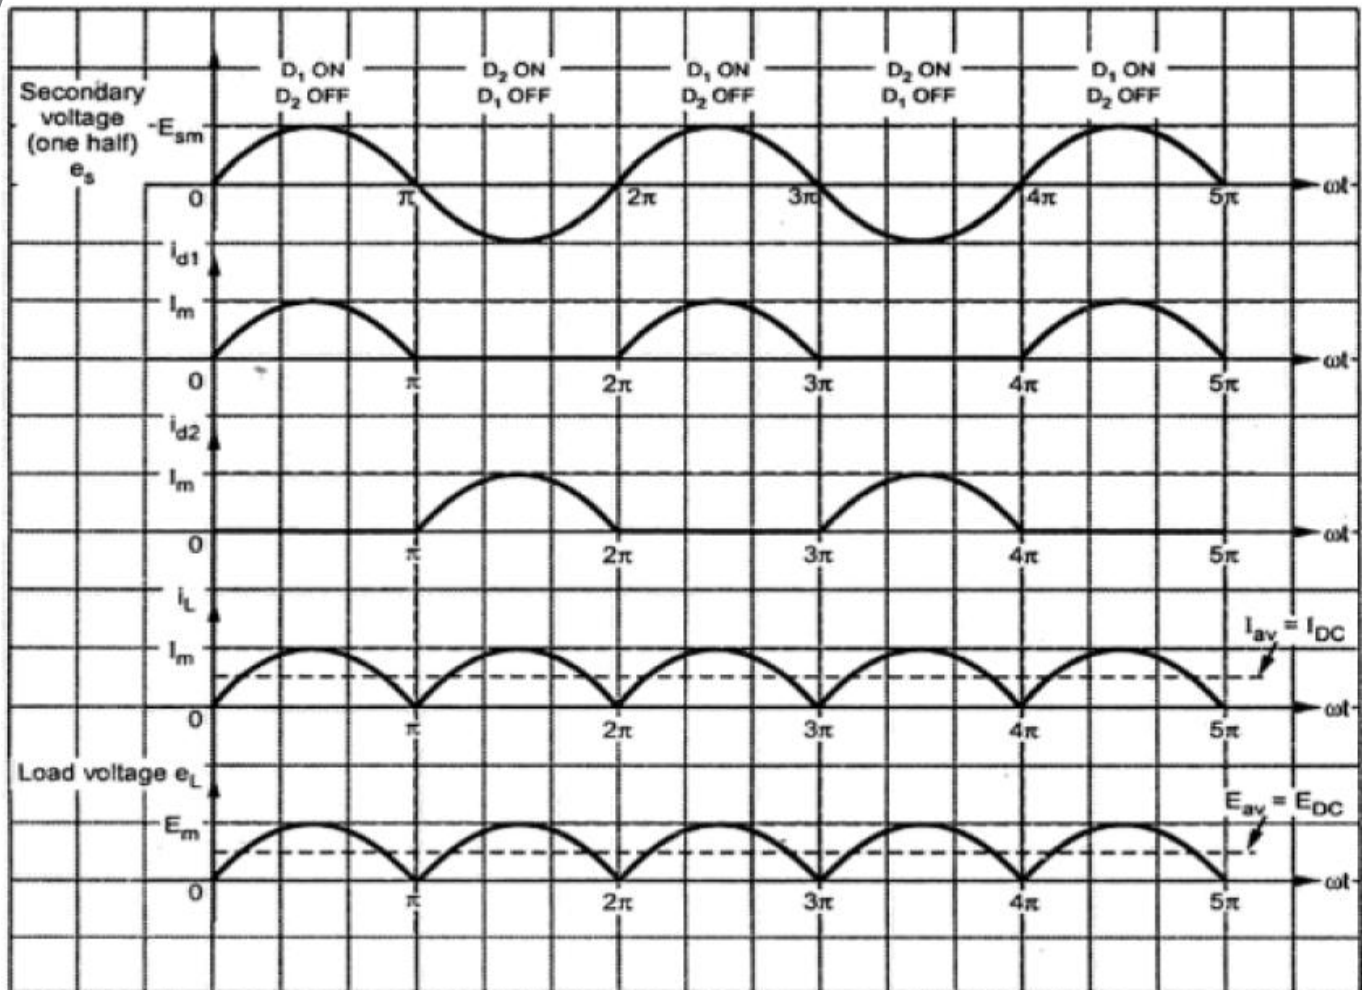

Fig. 1.27 Waveforms for Full wave rectifier
- The individual diode currents and the load current are shown in the Fig. 1.27.